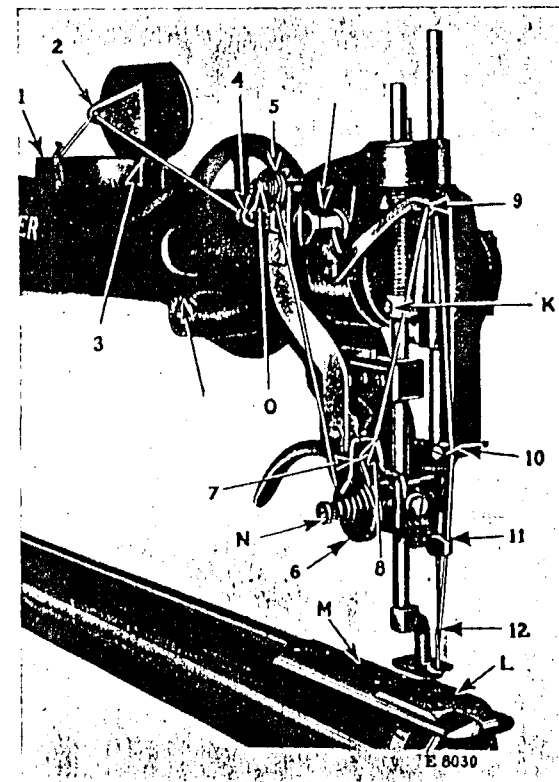
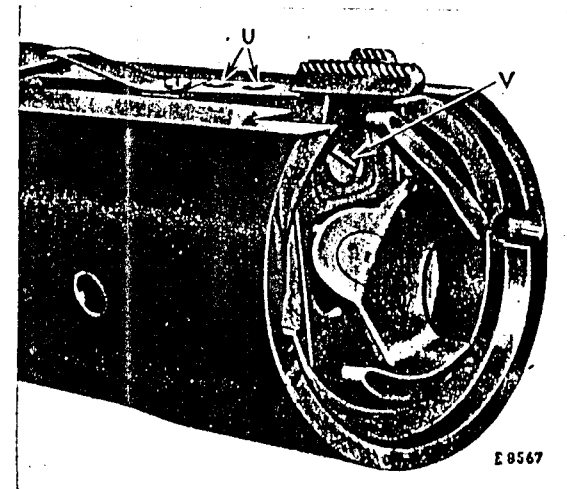

FIG. 6. THREADING THE NEEDLE
FIG. 12. ADJUSTMENT FOR CHANGING DIRECTION OF FEED
The tension on the needle thread is regulated by the thumb nut (O, Fig. 6) at the front of the tension discs and the thumb nut (N, Fig. 6) at the front of the tension wheel. The tension on the tension discs should be just enough to turn the tension wheel when the thread is taken from the spool.
The pressure on the material is regulated by the collar at the upper part of the presser foot bar. To increase the pressure, loosen the set screw (K, Fig. 6) and move the collar upwardly. To decrease the pressure, loosen the set screw (K, Fig. 6) and move the collar downwardly. After the desired pressure has been obtained, securely tighten the collar set screw (K). The pressure should be only heavy enough to enable the feed to move the work along evenly and to prevent the work from rising with the needle.
Loosen the screw (V, Fig. 12) in the feed dog carrier slide which holds the feed dog in position. Raise or lower the feed dog to the required height, as instructed above, then securely tighten the screw (V).
To change the direction of feed, remove the throat plate (L, Fig. 6) and throat plate holder (M, Fig. 6). Take out the two top screws (U, Fig. 12) in the feed dog shank and remove the feed dog. Remove the raising block which is held in position by the screw (V, Fig. 12), and in the seat of the raising block, fasten the feed dog for feeding across the cylinder by means of the screw (V, Fig. 12).